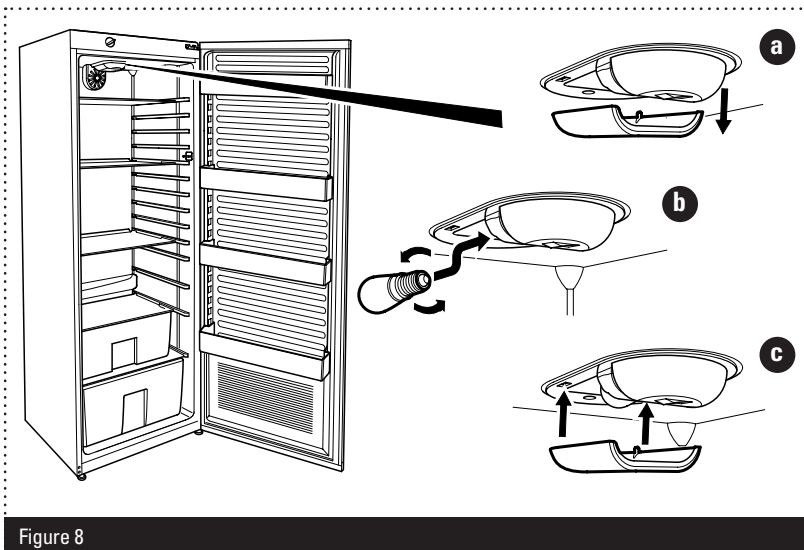

Figure 8
- 2 Remove the light cover using a screwdriver to release the claws (Figure 8 **a**).
- 3 Unscrew the bulb by turning it clockwise, and remove (Figure 8 **b**).
- 5 Re-fit the light cover, by pushing it upwards until it clicks back into position (Figure 8 **c**).